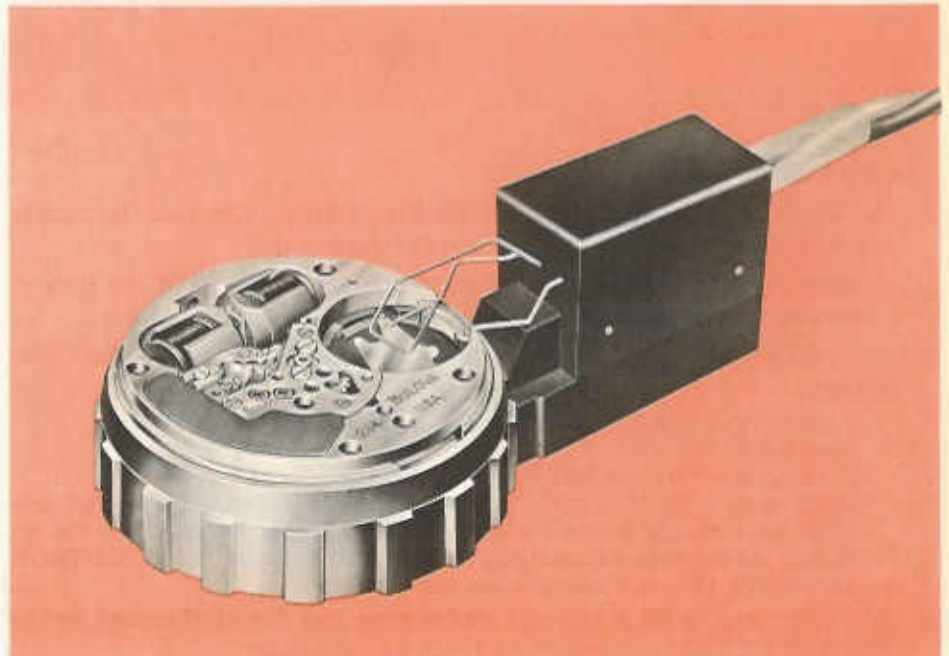

Fig. 3
The notch in the side of the Movement Holder is designed to accept the spring clip for attaching the Test Set and Voltage Supply to the movement. Fig. 3 shows the spring clip correctly attached to the movement and the Movement Holder.
3. With a Power Cell in the nest of the Test Set, connect the spring clip at the end of the lead to the movement so that the center finger (+) is touching the contact in the center of the Power Cell recess. The other two fingers (-) should be spring tight in the pillar plate (see Fig. 3).